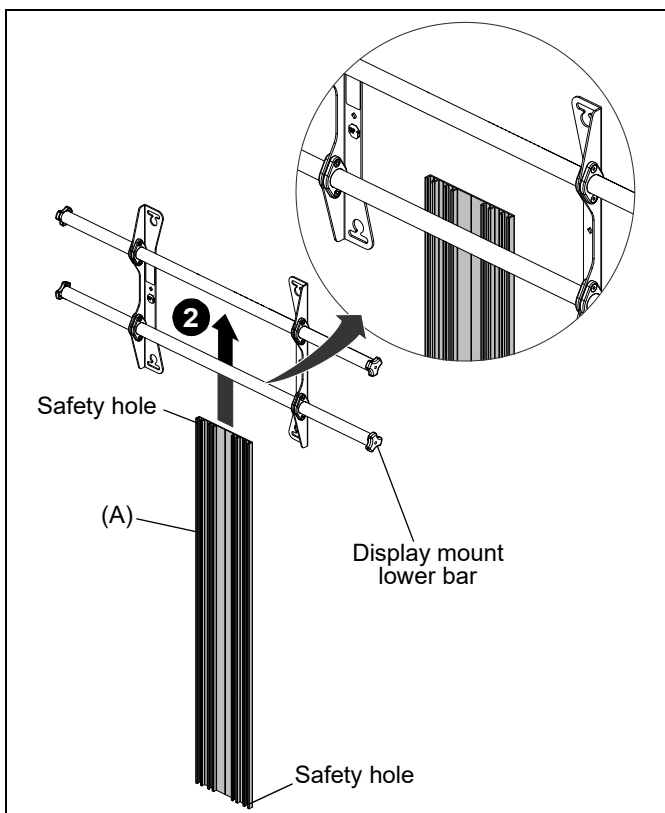

Figure 2
2. Slide the upright extrusion (A) behind the lower horizontal bar on the display mount. (See Figure 2)